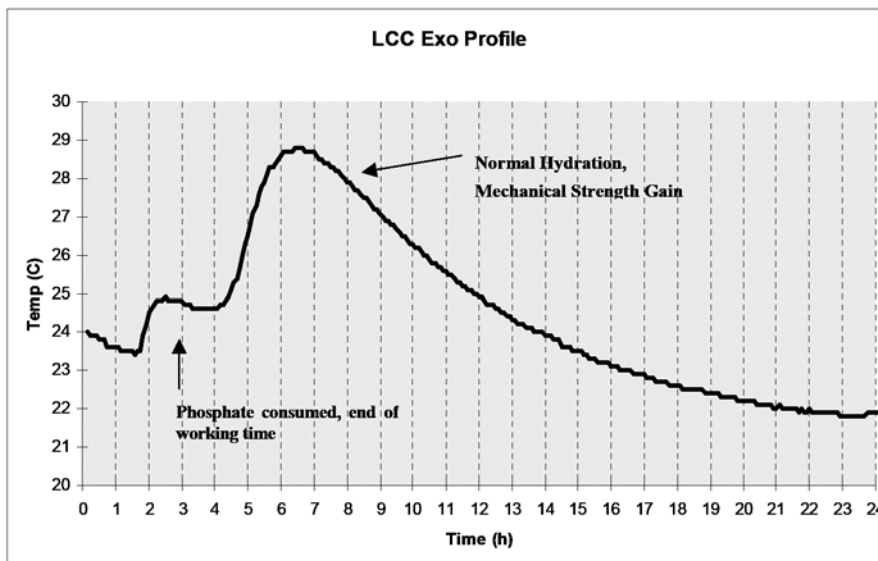

FIG. 1 Example of LCC Exo Profile
4.6 Following is an example of a curve generated for an LCC (see Fig. 1) that does exhibit two peaks, the first one marking the end of working time. In this curve one could also infer that the start temperature of the mix was 24°C and also that the hydraulic strength gain reaction was significantly started, but not completed by 6 h.